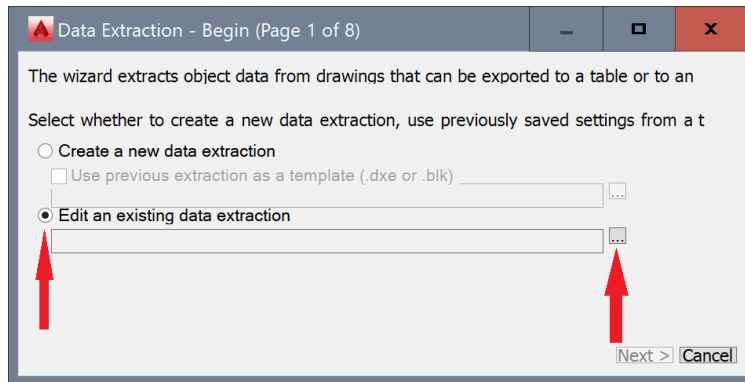

Figure 1.28: Eattext Page 1
9. Select all lines and run “eattext” command, a window similar to fig 1.28 should pop up, select “Edit an existing data extraction” then click the browse button.